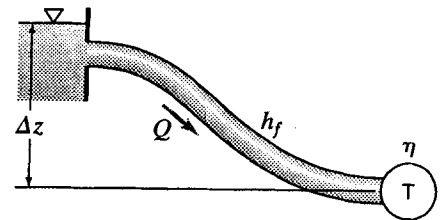

Figure X5.9.1
5.9.2 A turbine, located 255 m below the water surface at intake (Fig. X5.9.1), carries a flow of 3.5 m3/s. The head loss in the pipeline leading to it is 10 m. Find the power (kW) delivered by the turbine if its efficiency is 92 percent.